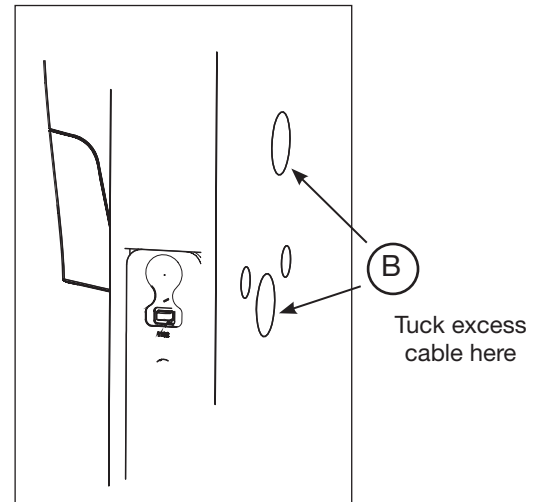

Fig. 11C
- B. Tuck excess cable into wire hole on inside of door (Fig. 11C).